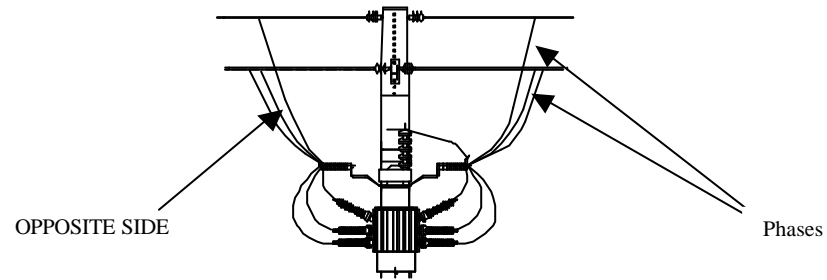

Figure 10
- Connect the three phases of the other side of the transformer to the line with switch in off position. (Figure 10).